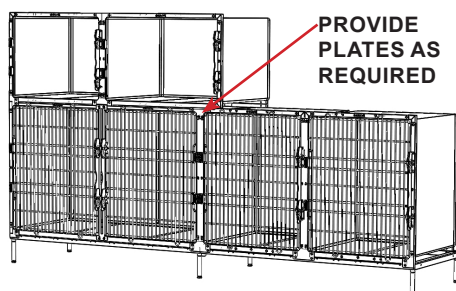

FIGURE 2.43 - Trim Plate #22
*Not all cage joints align with cages above/below. For these procedures the bottom row cages do not align with the cages above, add trim plates as required. See FIGURE 2.43*
**STEP 20:** Remove the top trim plate screws (4 each) from both bottom cages that do not align with the cages above. See FIGURE 2.43